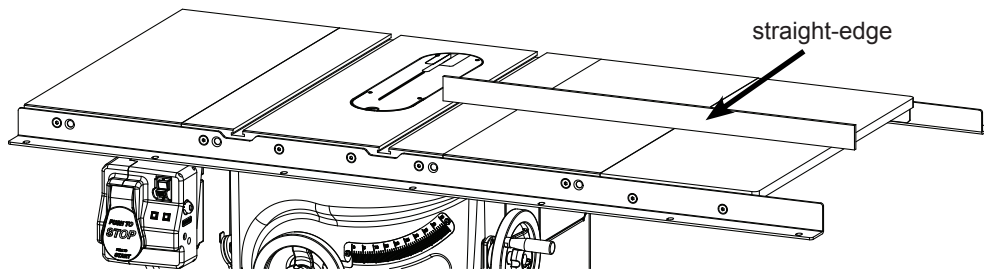
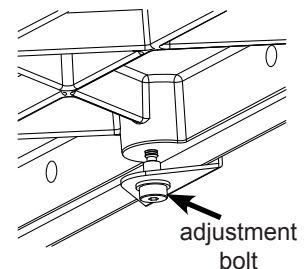

Fig. 12a
Fig. 12b
12. Place the straight-edge lengthwise across the middle of the extension wing and the extension table (see Fig. 12a). Use a 5 mm hex key to turn the adjustment bolt clockwise or counter-clockwise until the middle of the extension table is level with the extension wing (see Fig. 12b).